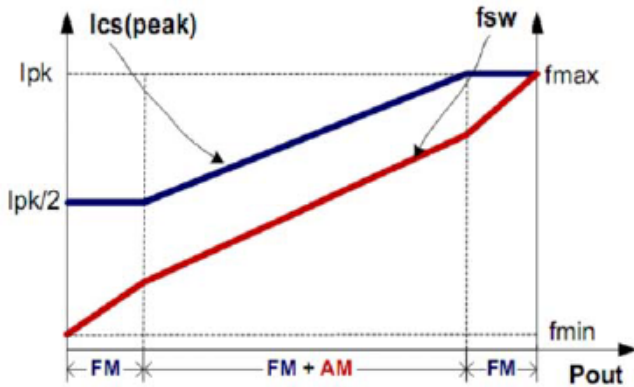

Fig.4
To meet the tight requirement of averaged system efficiency and no load power consumption, a hybrid of frequency modulation (FM) and amplitude modulation (AM) is adopted in FS6773S which is shown in the Fig 4.